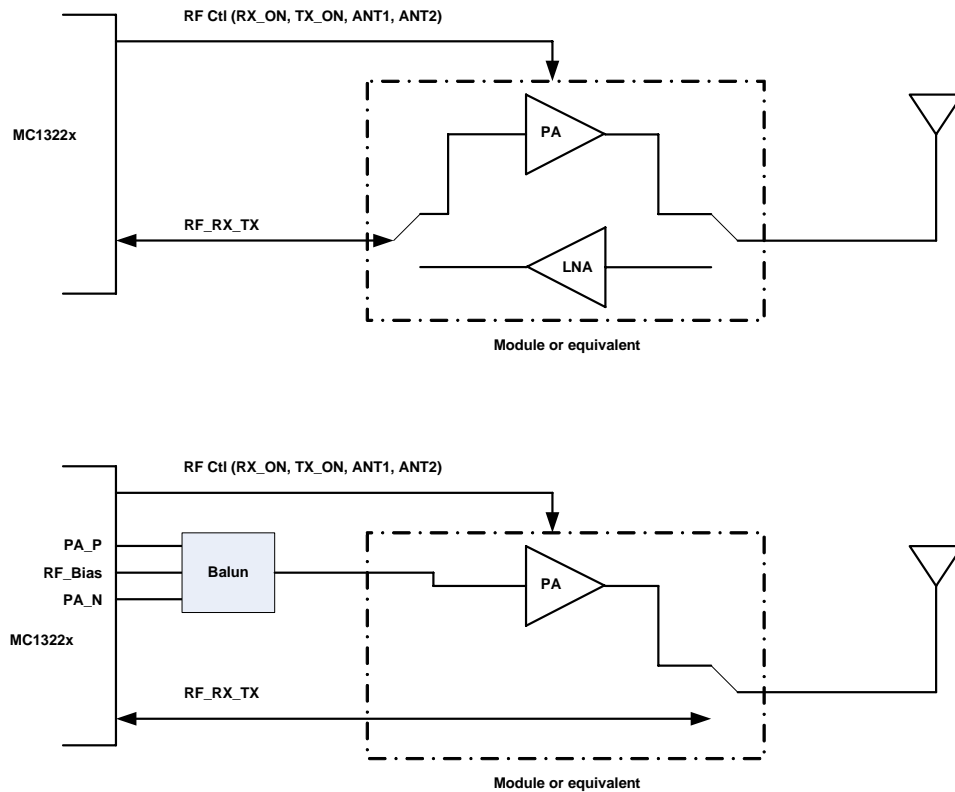

Figure 3-14. Using the MC1322x with External RF Components
For those applications choosing to include an external LNA for greater sensitivity, an external PA for greater output gain, or even multiple antennas, the MC1322x provides hardware support. Figure 3-14 shows two basic modes for using the MC1322x with external RF hardware:
- Single-ended, single port only (top half of Figure 3-14) shows with proper control, the single-ended port can be routed to a PA for TX and a secondary path (shown here with an LNA) for RX. The LNA may not be included because of the excellent receive sensitivity of the MC1322x
- Dual port, i.e., using secondary complementary PA outputs for amplified power along with the single-ended RF\_RX\_TX port (bottom half of Figure 3-14) shows an alternative approach using the device's secondary PA outputs with an external PA as a separate TX path and the single-ended port as simply the receive path.